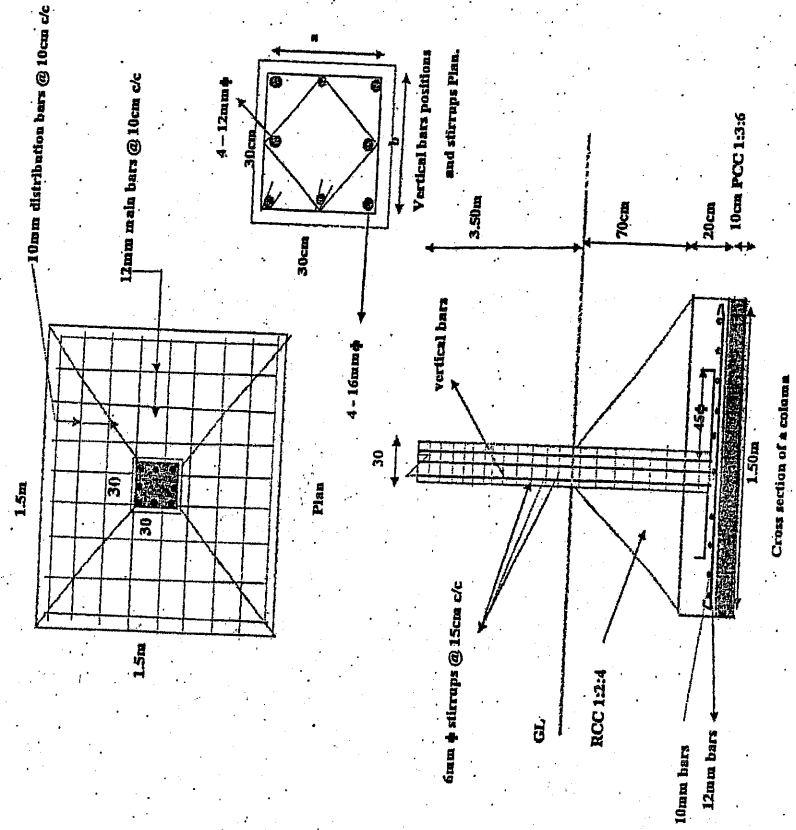

Figure 2
10. From the attached drawing (figure 2) attached of RCC column, estimate the following items. [3+5]